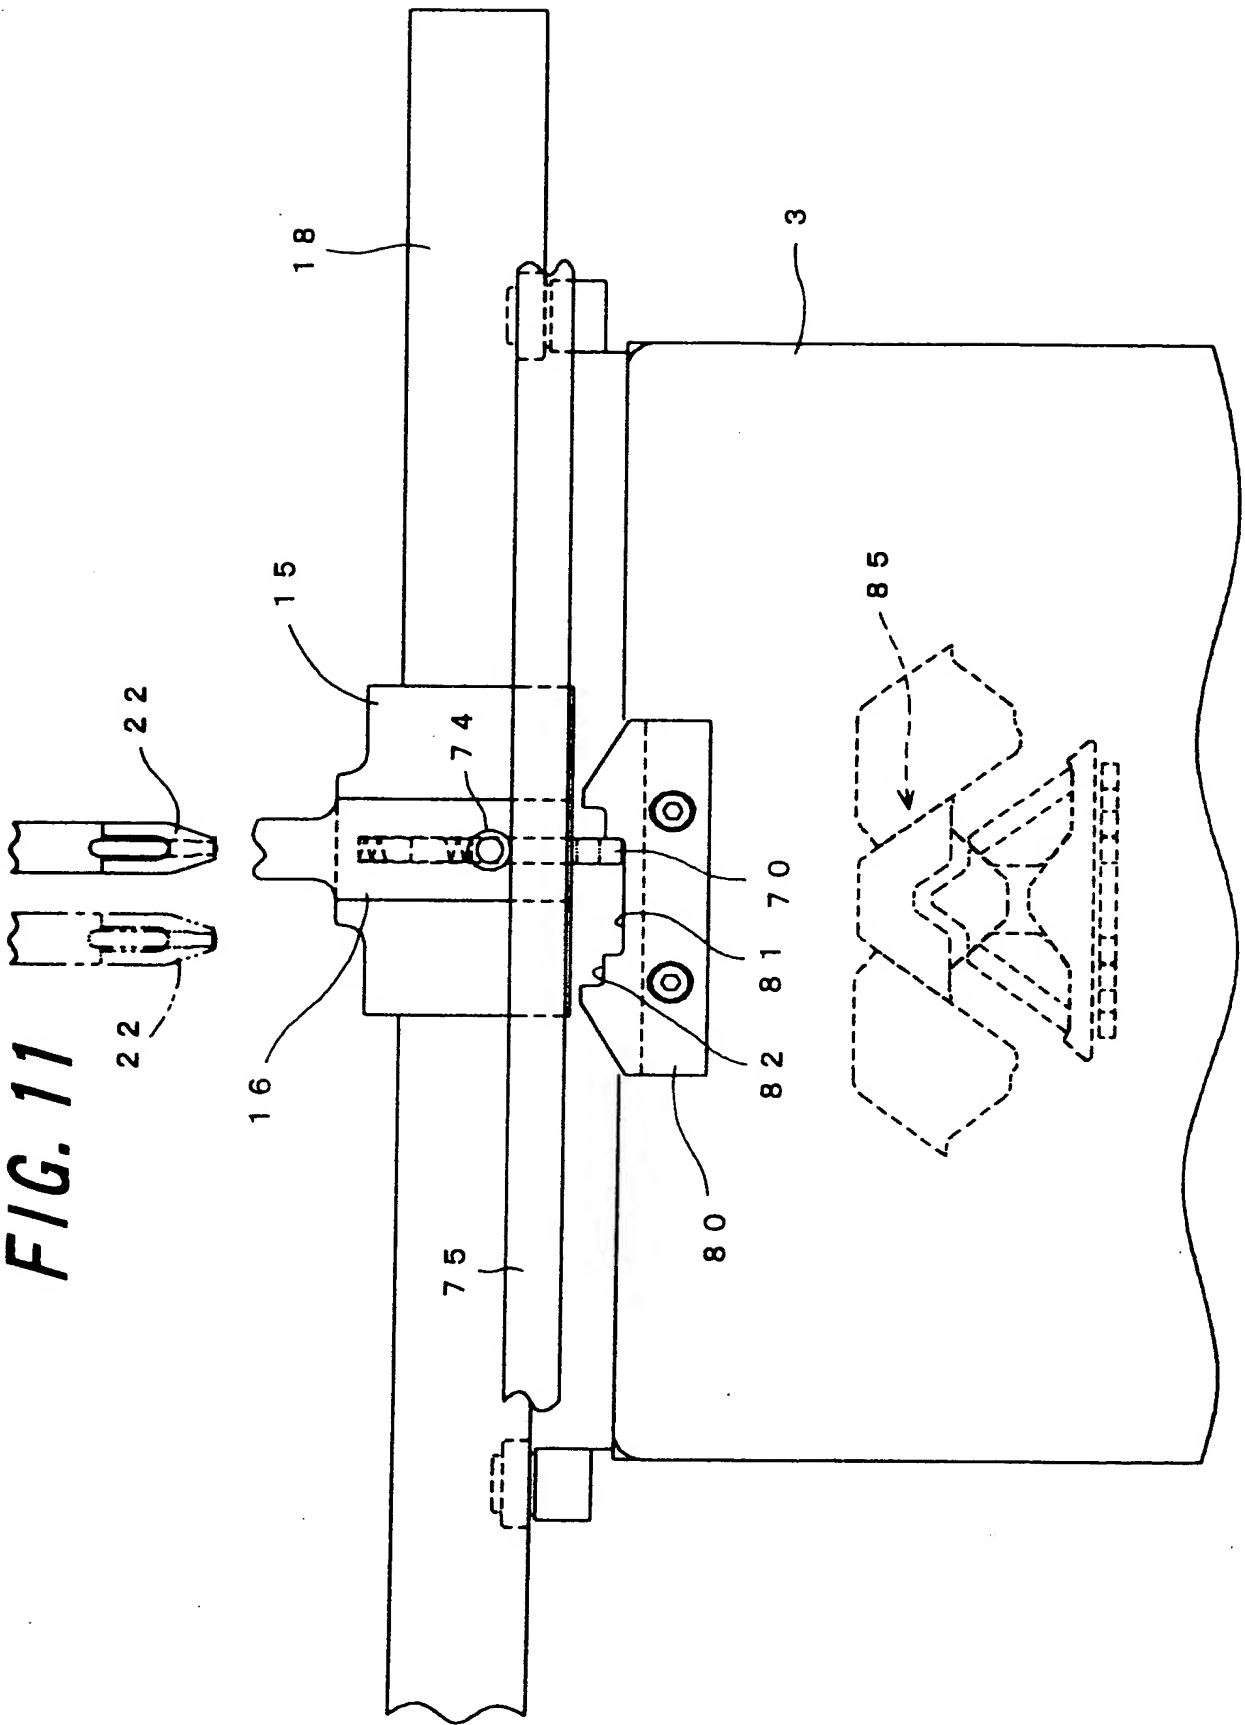

FIG. 12
FIG. 12 is a cross-sectional view of a mechanical assembly. It features a main housing (3) which contains several internal components labeled 80, 81, 70, and 82. A shaft (14) passes through the center of the assembly, passing through a series of nested sleeves or bushings labeled 16, 15, and 74. The shaft has a central feature labeled 22. The shaft is supported by bearings or bushings labeled 18. A dashed line indicates a hidden part of the shaft labeled 75. An inset at the top left provides a detailed view of the central feature 22.